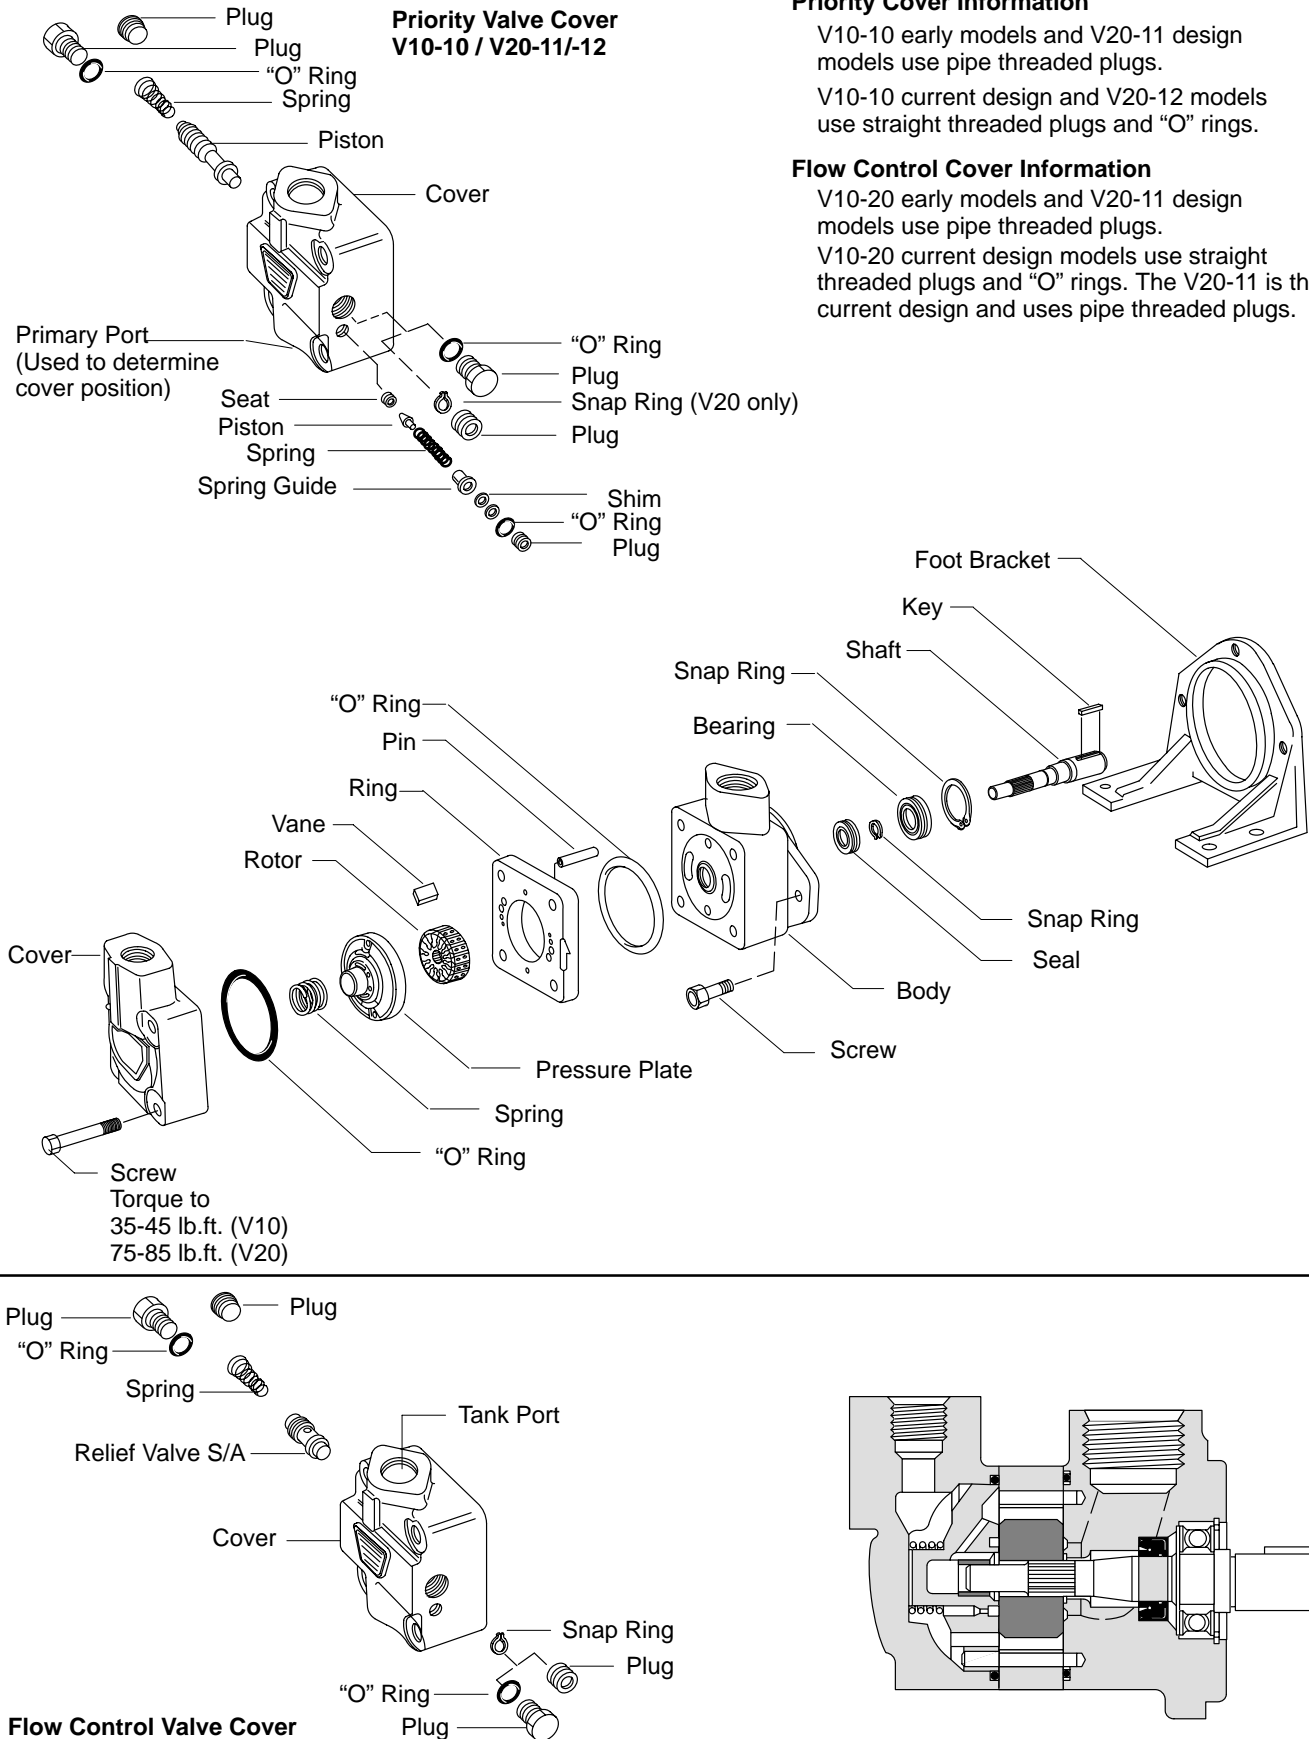

Figure 8.
Pump bearings are pressed in the bodies or on the shafts and should not be removed unless defective. Figure 8 is an exploded view which shows the proper relationship of the parts for disassembly and assembly. Refer to Figure 1 and Figure 8 for the correct assembled relationship of the parts.
1. Disassembly of Basic Pump – See Figure 8. If a foot bracket is used, remove before dismantling the pump. Clamp the pump body in a vise (not too tightly), cover end up, and remove the four cover screws. Note the position of the cover port with respect to the body port before lifting off the cover and “O” ring. (See paragraph 2 for disassembly of flow control covers and paragraph 3 for disassembly of the priority valve covers).
2. Disassembly of Flow Control and Relief Valve Covers – See Figure 8. Remove the plug and “O” ring from the snap ring side of the cover. Then remove the plug and “O” ring that releases the spring and relief valve S/A. Insert a suitable tool from the snap ring end of the bore.
3. Disassembly of the Priority Valve Cover – See Figure 8. Remove the plug, “O” ring and spring from one end of the priority valve bore, and the plug and “O” ring from the other end of the bore. Insert a suitable tool into the snap ring end of the bore (Snap ring used with pipe thread plugs only) and slide the priority valve spool from the cover. If the snap ring exists, remove it from the cover. Disassemble the relief valve by removing the plug, spring, poppet and shims. On later designs a spring guide is used. See Figure 8. DO NOT remove the seat unless inspection of the poppet contact area reveals a problem in the seat area. If removal of the seat is required, thread the seat with a suitable tap approximately 3/8 inch into the seat. Thread a long bolt into the seat and pull the bolt and seat from the bore with a small gear puller.
1. Assembly of Flow Control Cover – See Figure 8. Assemble the snap ring in place within the bore, (early design only) seat firmly in the groove. Insert the valve in the bore, smallest land first. Then install the spring and both plugs. Use new “O” rings if straight thread plugs are used.
2. Assembly of Priority Valve Cover – See Figure 8. If the relief valve seat was removed, a new seat must be pressed into the body. Lubricate and insert the new seat chamfered end first into the cover opening. Align square and press into place. Use a short length of brass rod as a pressing tool, to prevent seat damage. Clean the relief valve bore to remove chips and filings. Insert the poppet into the bore, align square and lightly tap the stem of the poppet to mate the poppet and seat. Install the spring, shims and plug into the cover. (Later designs use a spring guide and straight thread plug with “O” rings). Be sure to check the pressure setting of the relief valve against the model code. If the setting is out of tolerance, readjust by removing or adding shims. (Removing shims reduces pressure while adding shims increases pressure.)
priority valve spool, small land first, into the bore. Install plugs at each end of the bore and secure. Refer to Figure 8 for spool orientation.
3. Assembly of Pump – See Figure 8. Begin assembly by pressing the shaft into the front bearing while supporting the bearing inner race. Install the small snap ring on the shaft.
Place the pressure plate on the locating pins and flat against the ring. Place the spring over the pressure plate and then install the cover with the outlet port in the correct position. Tighten the cover screws to the torque shown in Figure 8. Rotate the shaft by hand to insure that there is no internal binding. Install the shaft key.